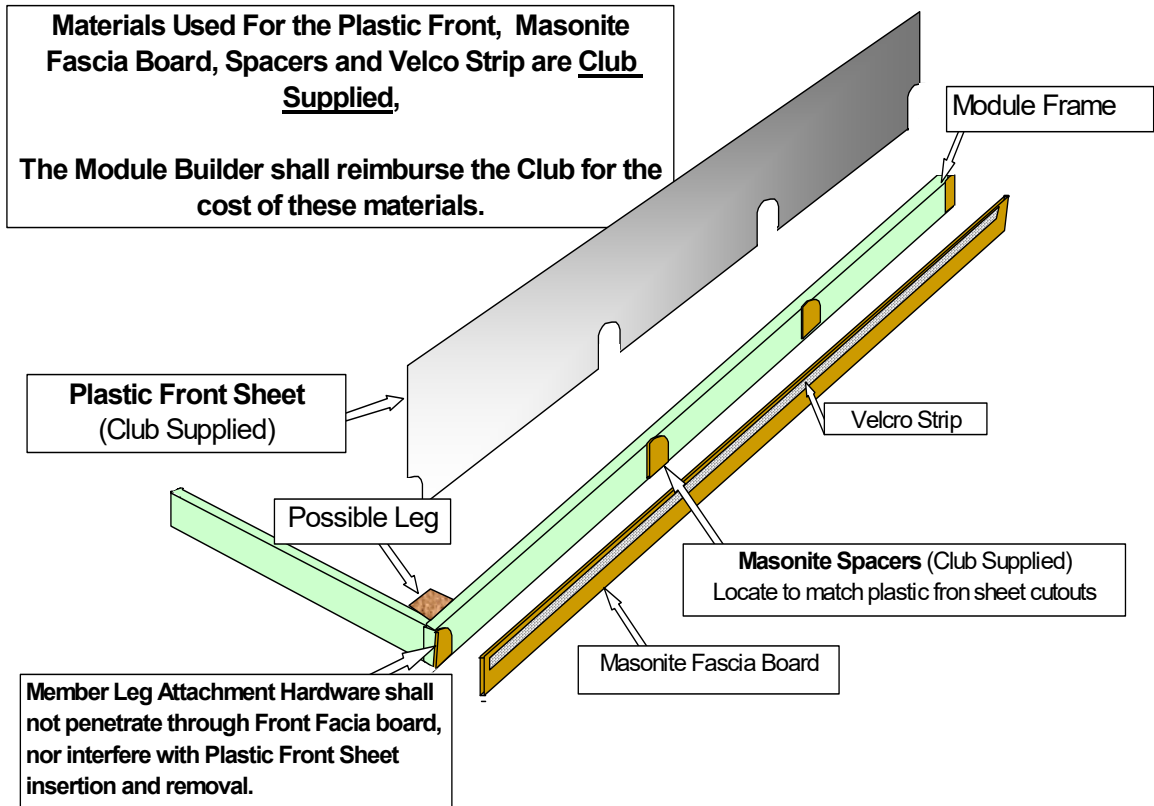

Figure 4 Plastic Front Panel -
1. All modules will have a clear plastic panel attached to the front of the module as shown in Figure 4 at all shows.
3. The club supplied Velcro strip, shown in Figure 4, will be used for attaching club supplied curtains. It must be attached to the front of the fascia board 3/4" below the top. If the Velcro strip is not self-adhesive, it must be attached with contact cement.